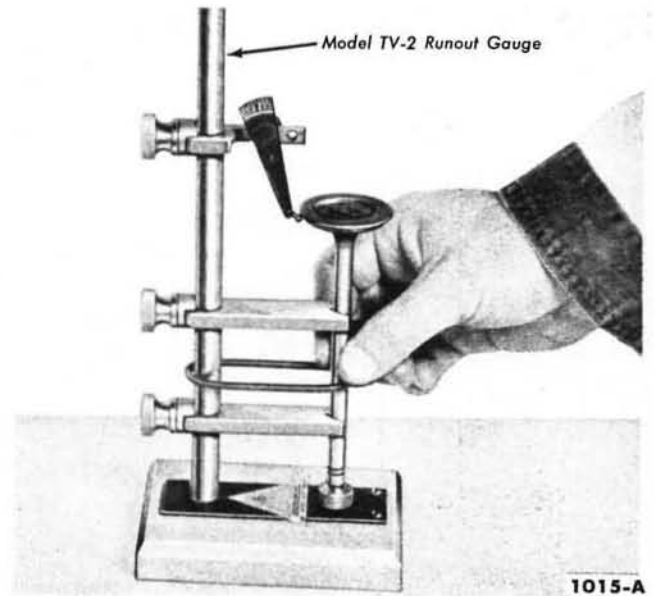

FIG. 11—Valve Face Runout—Typical
**Valve Face Runout.** Check the valve face runout (Fig. 11). It should not exceed the wear limit.